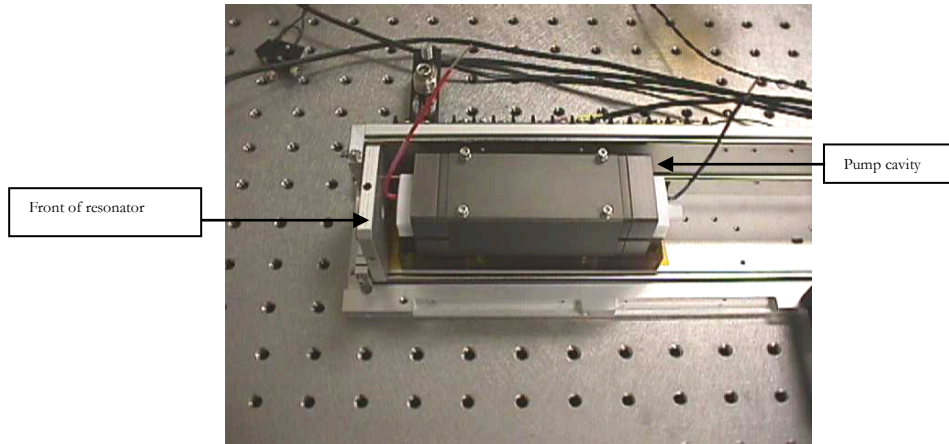

FIGURE 2
- **Tighten** the four (4) #4-40 x 1 7/8 SHD (2825-4503) screws, four (4) #4 split lock washers (2825-8155), and four (4) #4 small OD flat washers (2825-8151).
- **See** Figure 2.